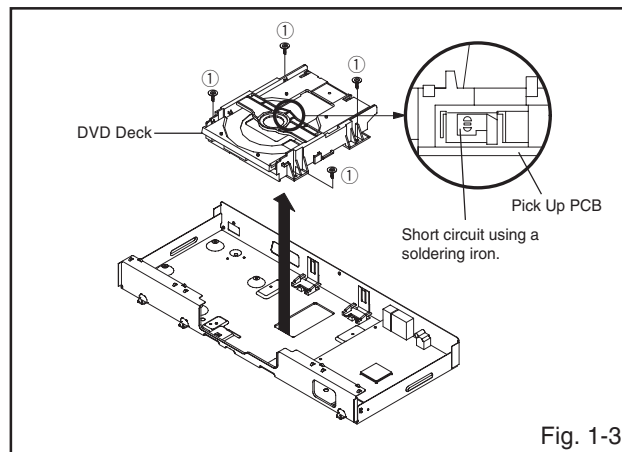

Fig. 1-3
1-3: DVD DECK (Refer to Fig. 1-3)
1. Short circuit the position shown in Fig. 1-3 using a soldering iron. If you remove the DVD Deck with no soldering, the Laser may be damaged.
3. Remove the 4 screws ①.